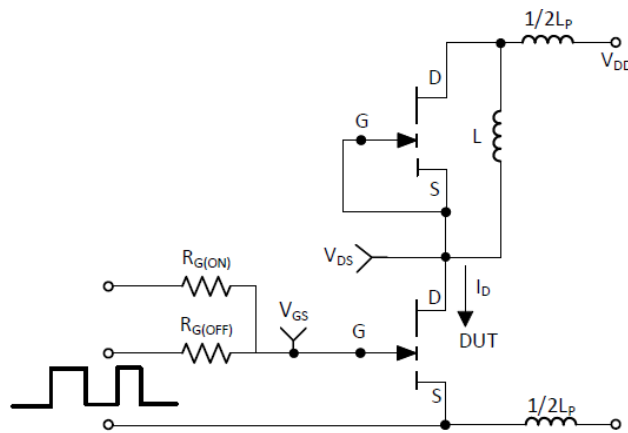

Figure 18: Switching Loss Test Circuit
(6) L_p = parasitic inductance
(7) See Figure 18 for switching test circuit